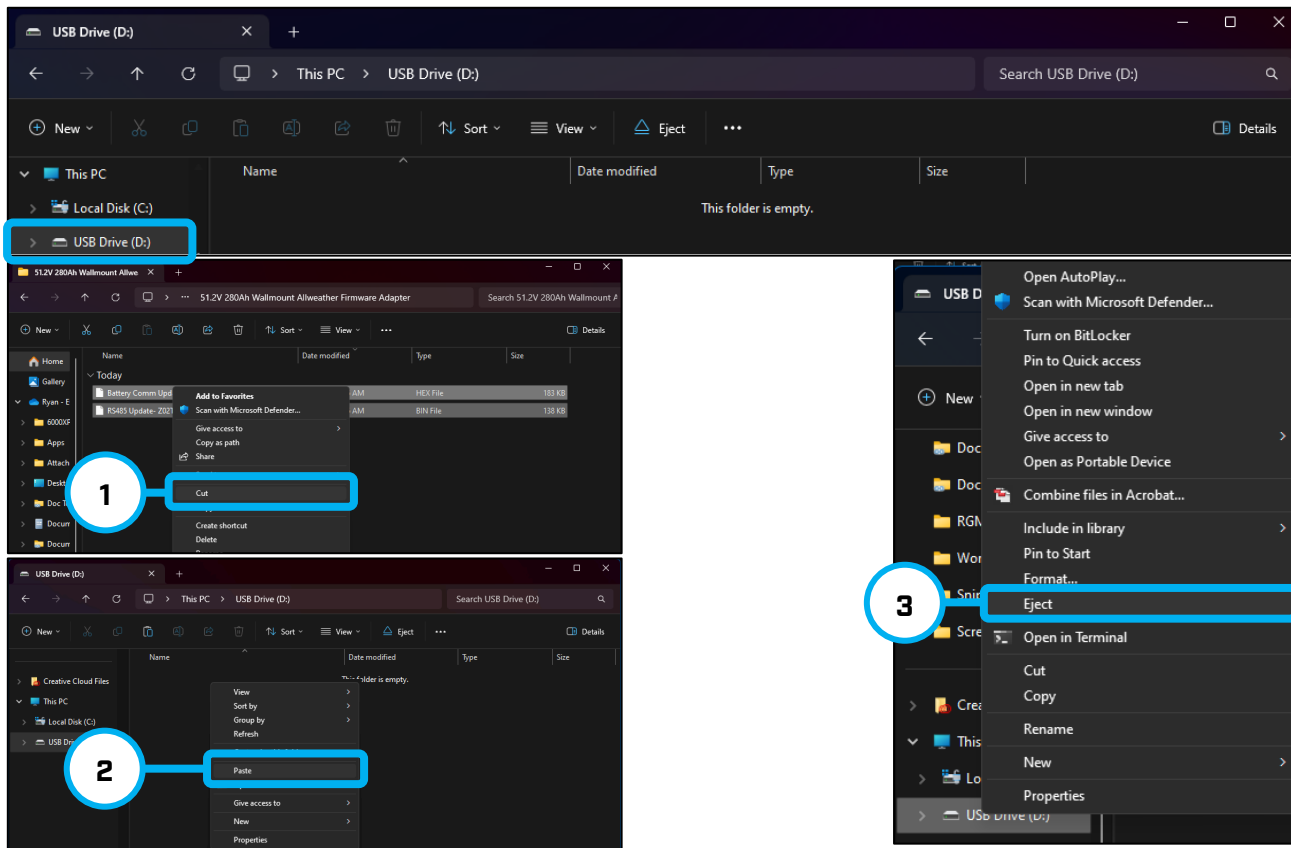

Figure 6.3 – Firmware Upload
- Copy and paste, or cut and paste, the firmware files into the adapter's folder in file explorer and safely eject the USB. See callouts 1, 2, and 3 in Figure 6.3.